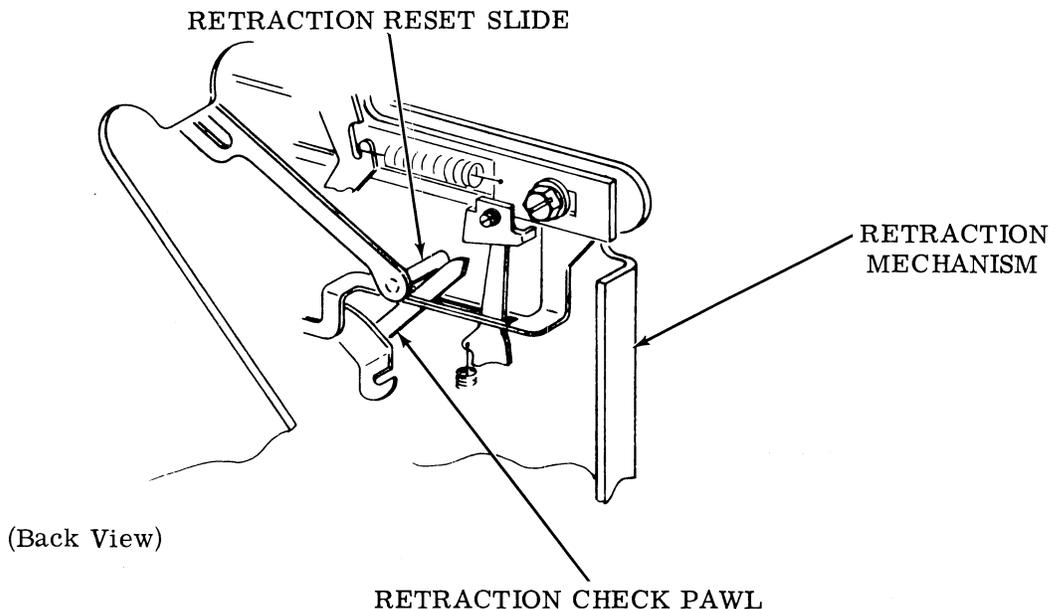

Figure 4 - Retraction Slide and Check Pawl
2.09 View the vertical positioning mechanism on the left side of the typing unit. The retraction reset slide (long thin black bail pivoted in the center) should be positioned in front of the retraction check pawls. If not in front of the pawls, move the retraction reset slide out and around in front of the check pawls. See Figure 4.